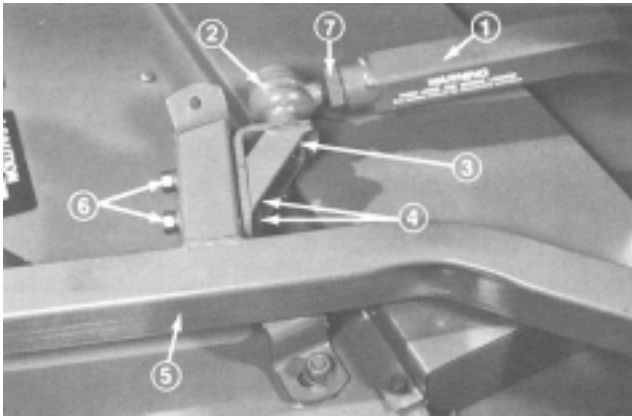

Figure 13
- 3. Secure the ball joint mount (Fig. 13) to the mount bracket with 2 capscrews (7/16 x 3 in.), flat washer (7/16 in.), and nuts (7/16 in.). The head of the capscrews and flat washer must contact the ball joint mount.
- 4. Tighten the large jam nut against the front of the left push arm (Fig. 13). When tightening the jam nut, hold the ball joint straight to permit proper oscillation during raising and lowering of the cutting unit.